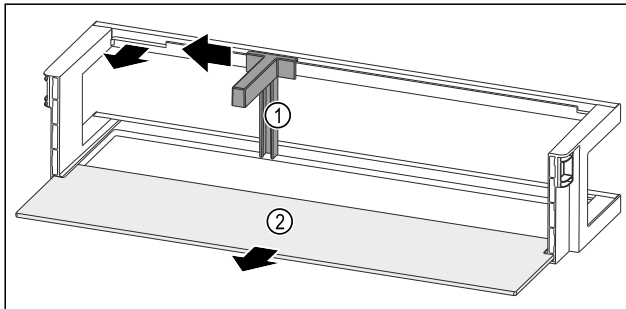

Fig. 98 Door rack with bottle holder and shelf
- Slide the bottle holder Fig. 98 (1) to the side as far as the recess.
- Remove the bottle holder Fig. 98 (1).
- Remove the shelf Fig. 98 (2).